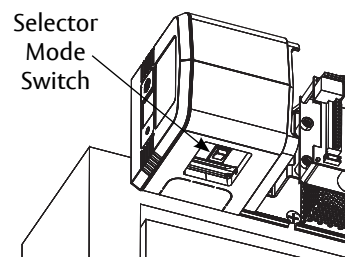

Figure 24
WARNING: Door may begin to move immediately when power is applied. An open union assembly door on a PULL unit has potential to pinch fingers if hand is not withdrawn quickly when switching on power. (Figure 24)
5. Place selector mode switch of union assembly in 'ON' position for activation by push plate, RF button, or other activation devices. Place switch in 'H/O' for continuous hold open. (Figure 24) Secure union assembly door with #4 Phillips screw when finished.
WARNING: Door may begin to move immediately when selector mode switch is changed. An open union assembly door on a PULL unit has potential to pinch fingers if hand is not withdrawn quickly when adjusting switch. (Figure 24)